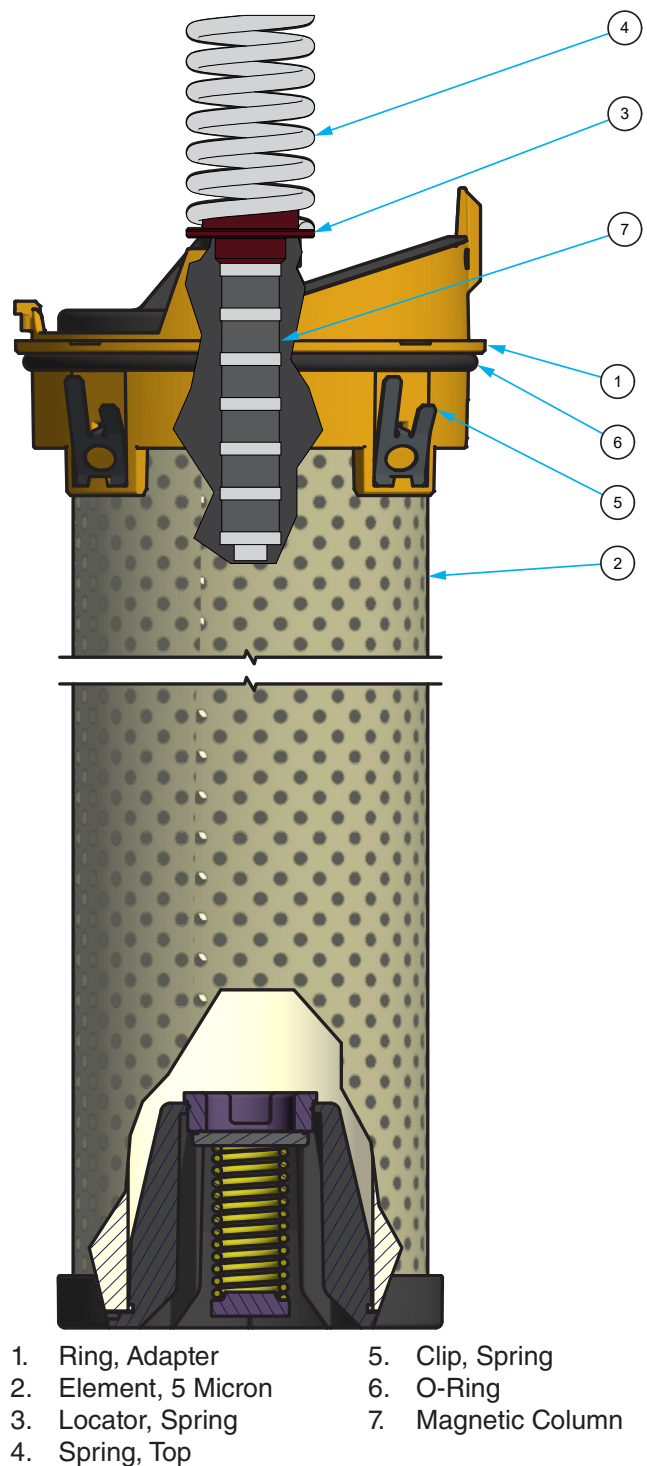

Figure 5 Return Filter Assembly
4. Remove in-tank filter assembly. See Figure 5.